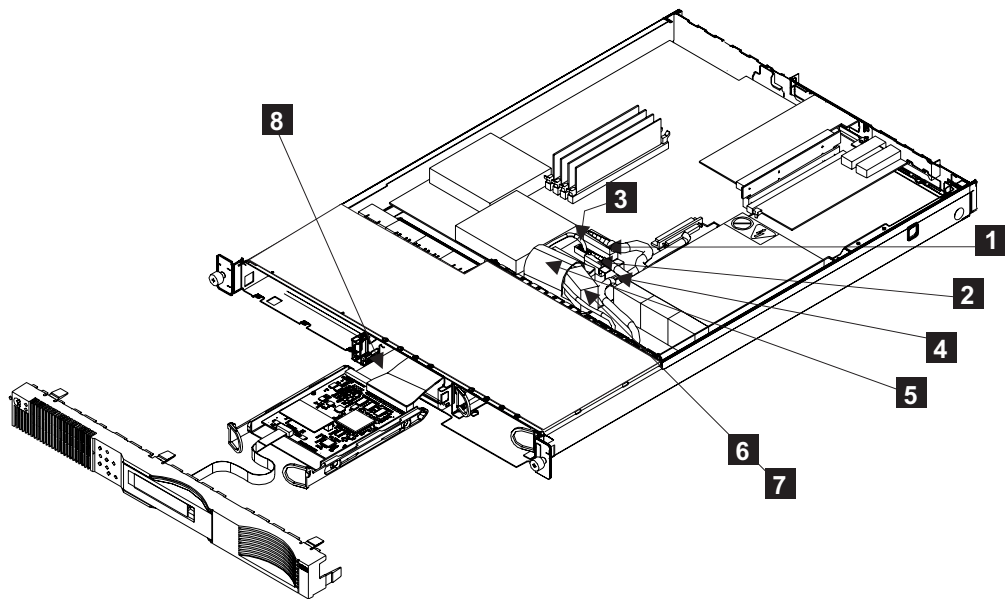

Figure 108. Service controller cables
5. Press the latch on power connector P1 **1** and power connector P2 **2**, and disconnect them from the system board. See Figure 108.